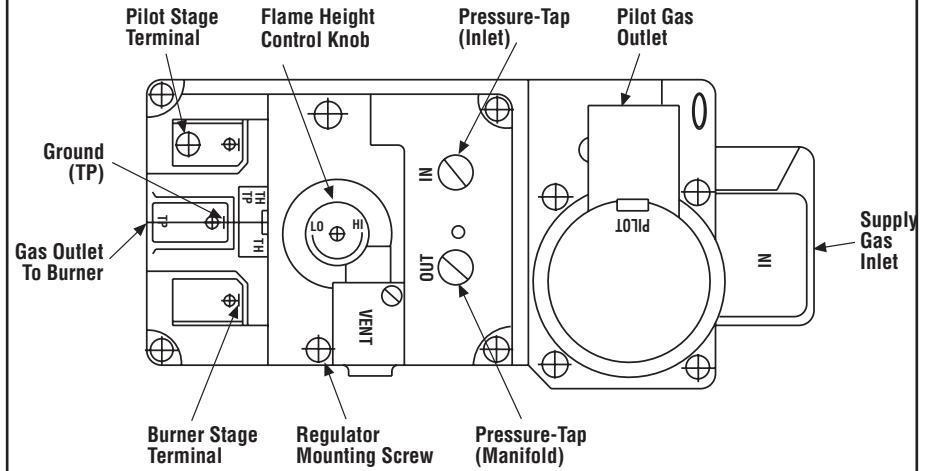

Figure 25 - Dexen Gas Valve
Step 4. Dexten Electronic Valves - See *Figure 25, Page 16* and the instructions provided with the kit. Remove and discard the two pressure regulator mounting screws. Remove the pressure regulator and diaphragm. Discard all removed components. **Ensure the rubber gasket installed on the back of the replacement pressure regulator is properly positioned.** Install the new pressure regulator using the new screws supplied with the kit. Tighten screws to 25 in. lb. torque.
Adjust the flame height as desired after lighting the appliance by rotating the variable adjustment control knob located on the front of the valve (see **Figure 25, Page 16**).